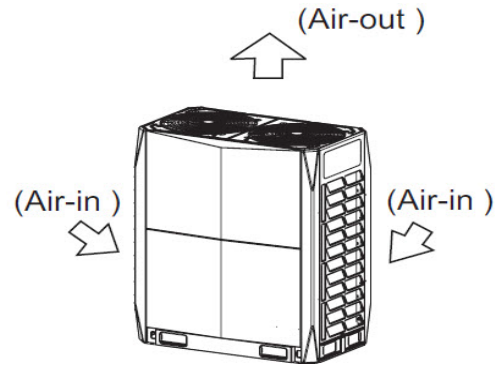
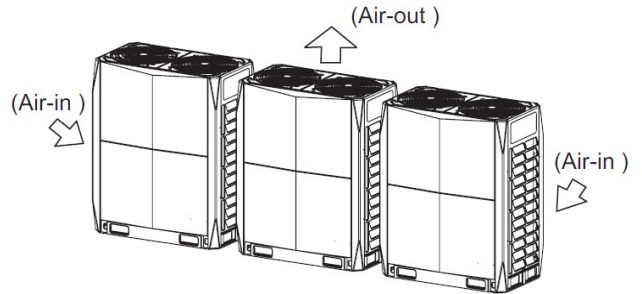

Fig. 11 —Single Unit Installation
Fig. 12 —Multiple or Parallel Unit Installation
Step 2 — Position the Unit — Units are recommended for outdoor use. For single unit installation, see Fig. 11. For multiple or parallel unit installation, see Fig. 12. The unit should be mounted on concrete and fastened to anchor bolts to prevent the unit from tipping. Units installed in areas that are exposed to ambient temperatures below freezing (32°F) should be installed on a snow/ice stand as defined by local codes.